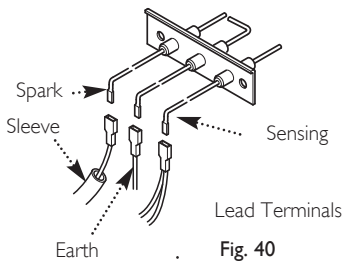

Fig. 40
4. Disconnect the three leads from the terminals (Fig. 40).